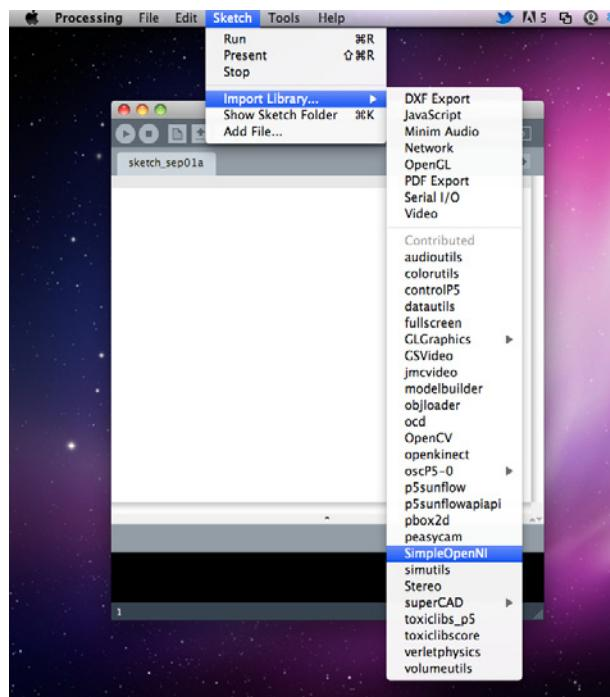

Figure 2-3. After a successful install, SimpleOpenNI shows up in Processing’s list of libraries.
- SimpleOpenNI should now show up in Processing's list of installed libraries (Figure 2-3). You can confirm this by looking for it under the Sketch→Import Library menu.